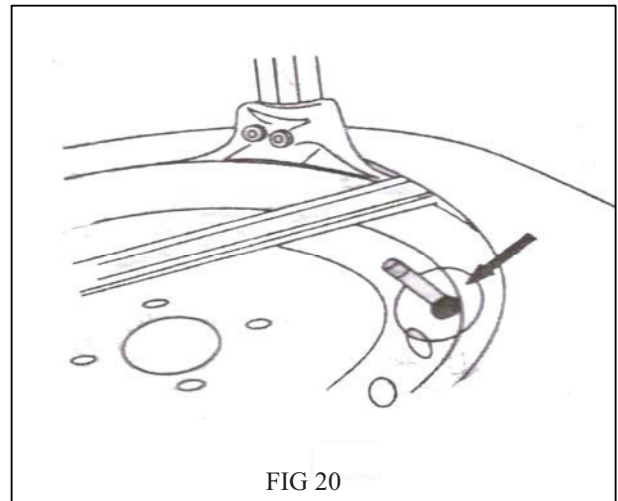

FIG 20
STEP 4: Use the tire iron to detach the lip of the tire up to the curve of the dismount head (Fig 20). Press the turntable rotation pedal (Fig 2-8) to rotate the turntable clockwise until the entire lip is completely detached. If handling a tire with a tube, avoid damage to the tube by keeping the nozzle of the tire 4" from the right side of the dismount head during the dismounting process. If the tire gets jammed, stop the machine immediately. Then lift up on the turntable rotation pedal to let the turntable rotate counterclockwise to reduce the resistance.